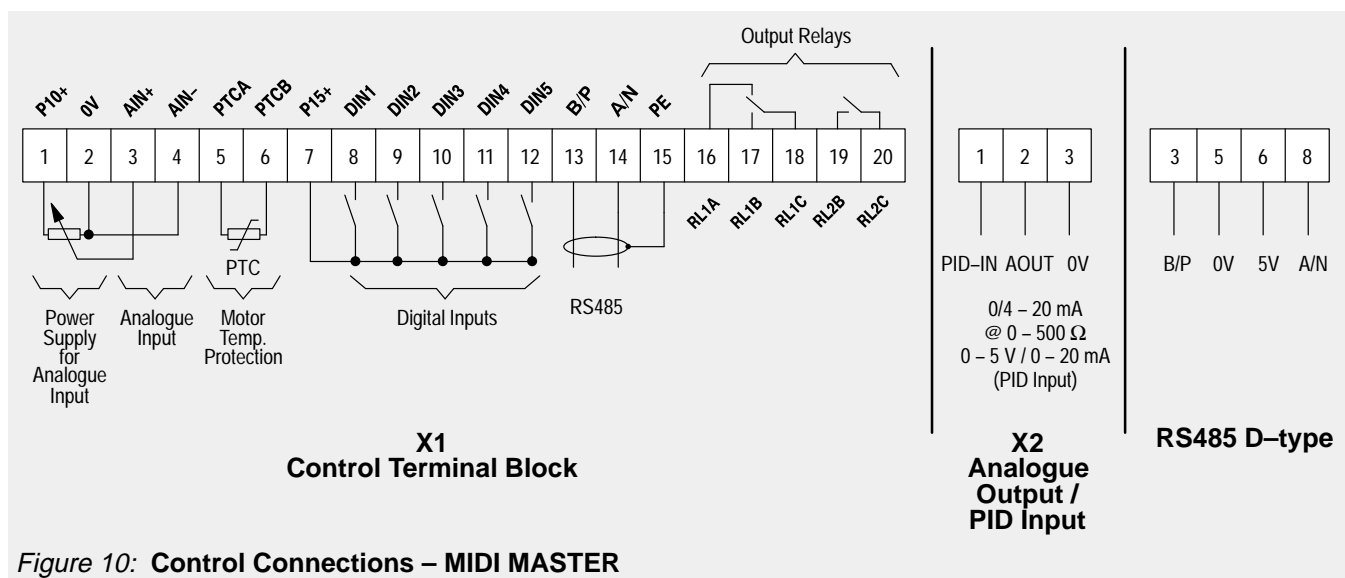

Figure 10: Control Connections – MIDI MASTER
- (1) Connect control terminal 7 to terminal 8 via a simple on/off switch. This sets up the motor for clockwise rotation (default).
- (2) Connect a 4.7 k $\Omega$  potentiometer to the control terminals as shown in Figure 7 (MICRO MASTER) or Figure 10 (MIDI MASTER) or connect a 0 – 10 V signal from pin 2 and pin 4 (0V) to pin 3.
- (3) Set the position of SW1 for voltage (V) input.